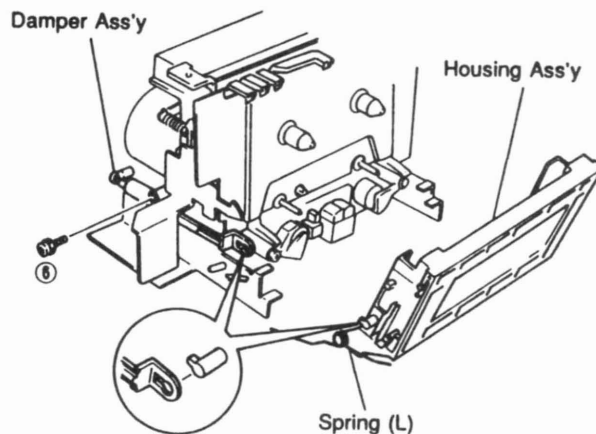

Fig. 3
- Detach the spring in Fig. 3.
- Remove 1 screw (⑥) and then remove the Damper Ass'y in Fig.3.